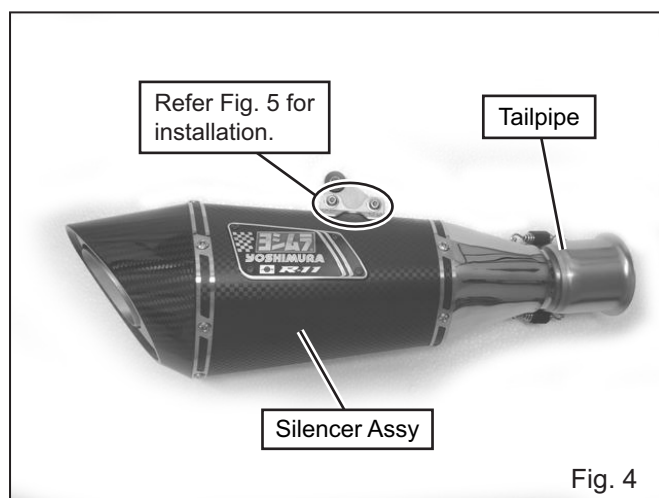

Fig. 4
- 5) Attach Silencer Bracket on to Silencer Assy with 2 of each Button Bolt M6x35, Washer M6x13, Spacer 6-10-15 and Flange Nut M6 (See Fig. 4 & 5). Tighten bolts by hand only at this stage.